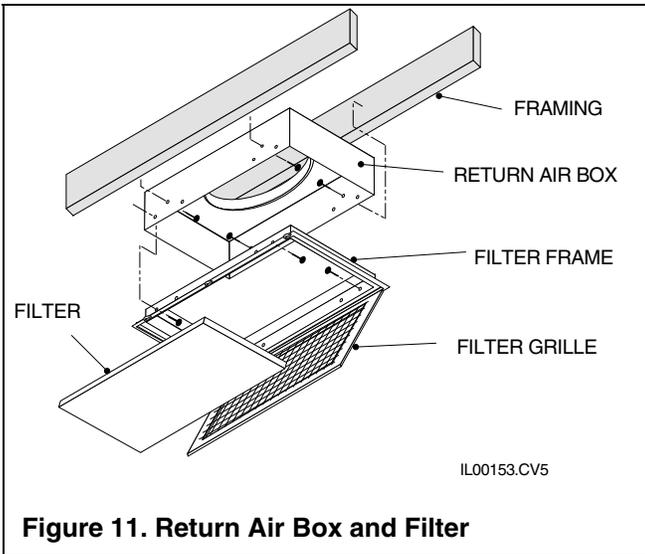

Figure 11. Return Air Box and Filter
To install the return filter and grille, cut an opening for the return box as specified in Table 1. If the joists or studs are on 16 inch (410 mm) centers, there is no need to build a frame to hold the return air box. Otherwise, it will be necessary to construct a frame around the opening. Center the return air box so the filter frame flange covers all the gaps and make sure the flange is flush against the wall or ceiling. Install the return air box against the frame using nails or screws. Holes are provided in the return air box. Use the four (4) 1/4-inch (6.4 mm) holes. The other holes are for mounting the filter grille. See Fig. 11.